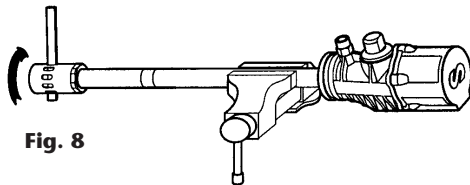

Fig. 8
2. Unscrew the intake filter tube from the intake filter head (fig. 8).